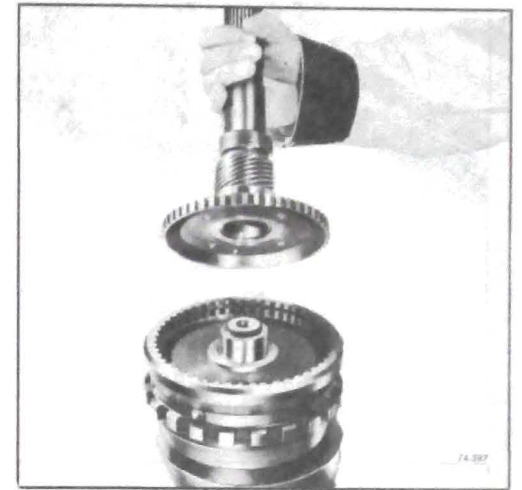

Figure 76-587
7. Install output shaft into output carrier assembly. See Figure 76-587.